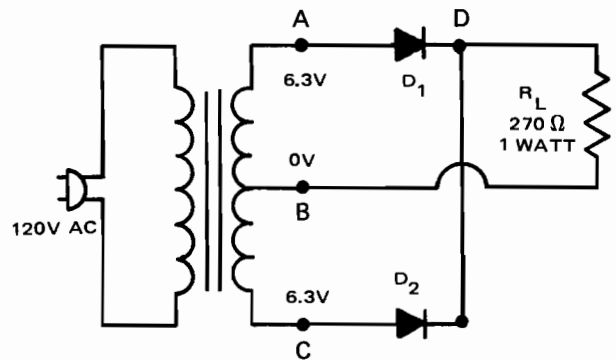

Fig. 15-2-1
1. Connect a full-wave semiconductor circuit as in Fig. 15-2-1. The ac source voltage for this cir-
3. Trace the conduction path in Fig. 15-2-1 when point A is positive and point C is negative. Start at point B. Also trace the circuit when point A is negative and point C is positive. _____